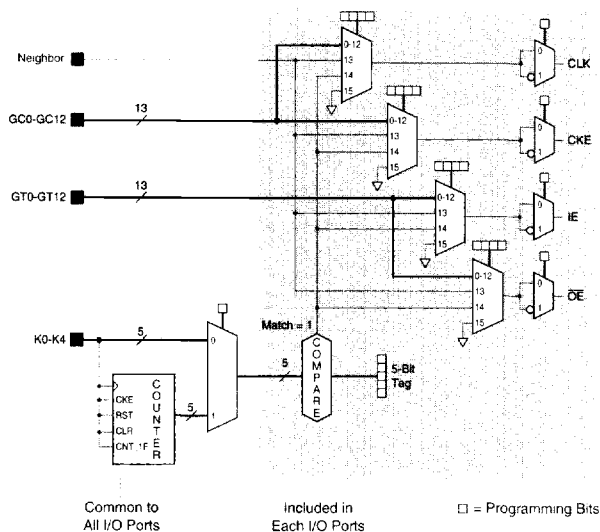

Figure 6: I/O Control
The IQX family has a structure that gives the user a lot of flexibility in controlling the behavior of each I/O Port. As shown in Figure 6 and described below, Clock (CLK), Clock Enable (CKE), Input Enable (IE) and Output Enable (OE) signals for each I/O Port can be selected from multiple sources. The control polarity can also be individually selected.
The Key Control feature on the IQX devices allows the user to encode mutually exclusive control signals for use as I/O control signals. The Key pins, K0 through K4 are shared with I/O Ports. This feature, shown schematically in Figure 6, works as follows:
When the device is reset all I/O Ports are set to the default configuration of flow-through input (IN). This is achieved by setting the 16-to-1 muxes shown in Figure 6, to select input 15 (V_{SS}); while the 2-to-1 muxes used for polarity selections are set to select non-inverted value for Clock (CLK) and Clock Enable (CKE), and inverted value for Input Enable (IE) and Output Enable (OE).